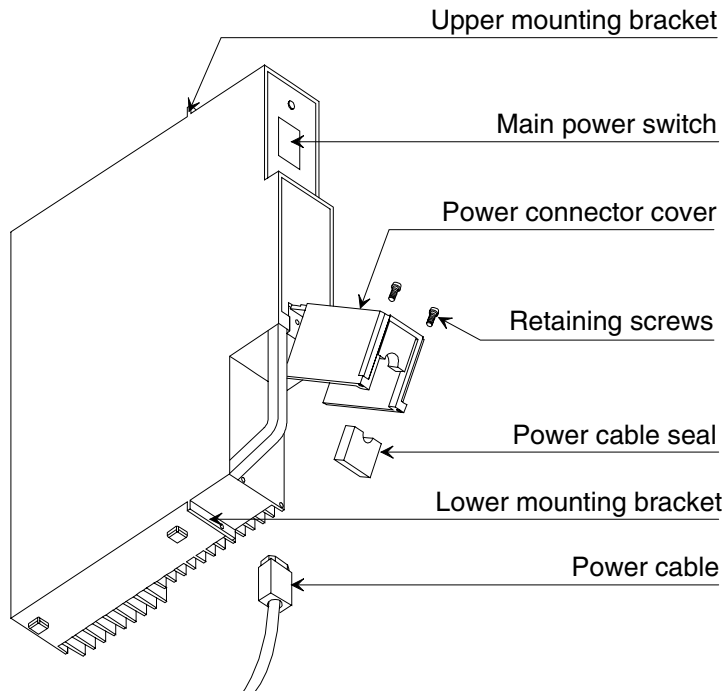

Figure 3. Power supply unit
2. Open the power connector cover on the PSU by removing the retaining screws with a T10 Torx driver (see Figure 3).
5. Loosen the two T10 Torx retaining screws on the connector cover and open the cover. See Figure 3.